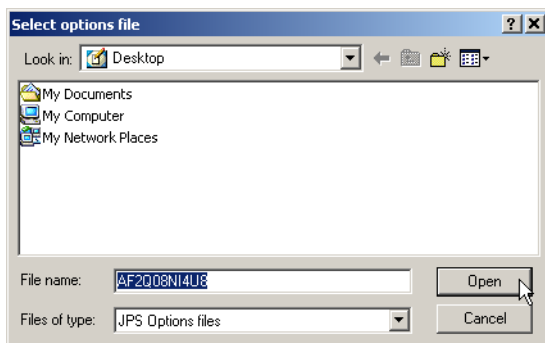

Figure 5-16. Load OAF
3. Navigate to the location of the new Option Authorization File. OAFs have .jpo or .tpo extensions and are unique to each receiver (Figure 5-16).
4. Select the appropriate file, and click **Open** (Figure 5-16). The new receiver option loads onto the receiver, and the Option Manager table updates.